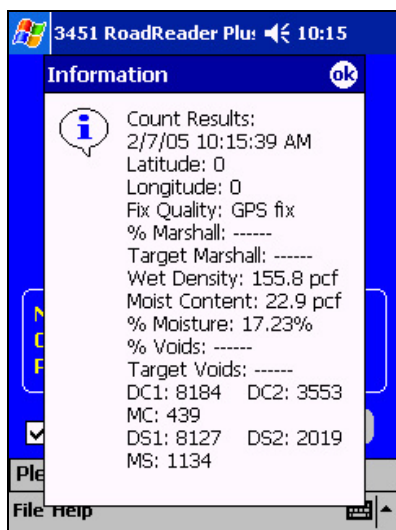

Figure 4–9. Count Results, Asphalt Mode
- ▶ To add project notes, press **<Yes>**. The PDA displays a **Project Notes** screen similar to the one shown in Figure 4–7 on page 4–12. Enter the desired notes and press **<Ok>**. Troxler recommends that the information entered as project notes does not exceed 40 characters.
- ✓ The PDA displays the measurement results as shown in Figure 4–9. Note that: